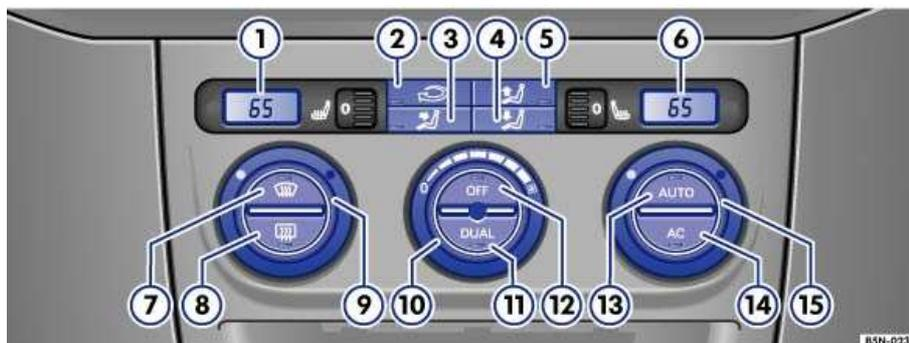

Fig. 104 Climatronic system controls in the center console.
- Use controls (9) and (15) to adjust the temperature settings for the left and right sides of the passenger compartment ⇒ Fig. 104.
- Air distribution is controlled by pressing buttons (2), (3), (4) and (5). When switched on, a light in the button comes on. Press the button again to switch it off.
- Press the **AUTO** button ⇒ Fig. 104. The indicator light in the button comes on.
- Press and hold the **AC** button and the **AUTO** button at the same time (⇒ Fig. 104 and the **AUTO**) until the units of the temperature display change.